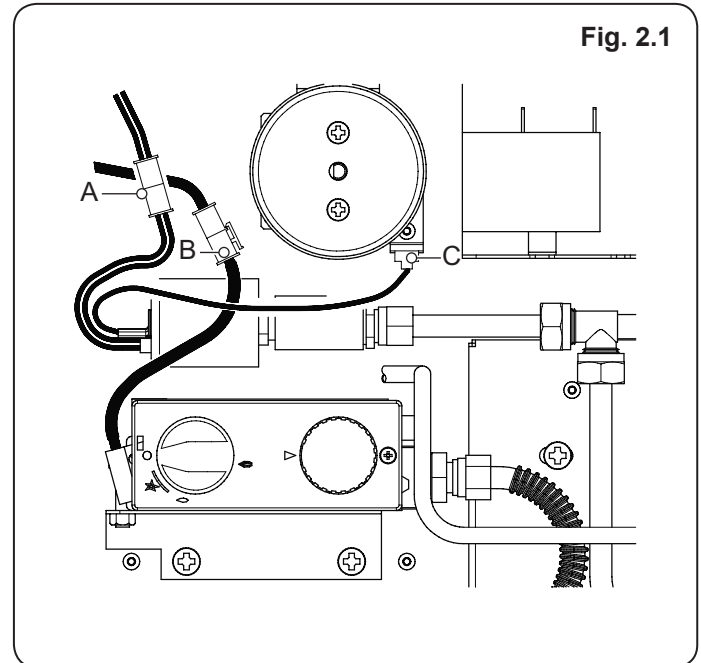

Fig. 2.1
5. Disconnect wiring in left-hand side of burner housing (2 off male/female molex connectors A & B) & earth wire (C) located above control valve **Fig. 2.1**.